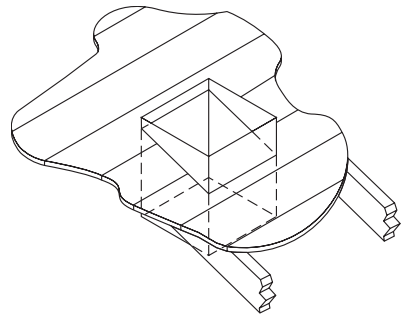

Figure 20
6. Run the Support Box through the roof as shown in *Figure 20*, and place it so that the bottom of the Support Box protrudes at least 2 inches below the finished ceiling. Align the Support Box vertically and horizontally with a level. Temporarily tack the Support Box in place through the inside walls and into the roof sheathing.